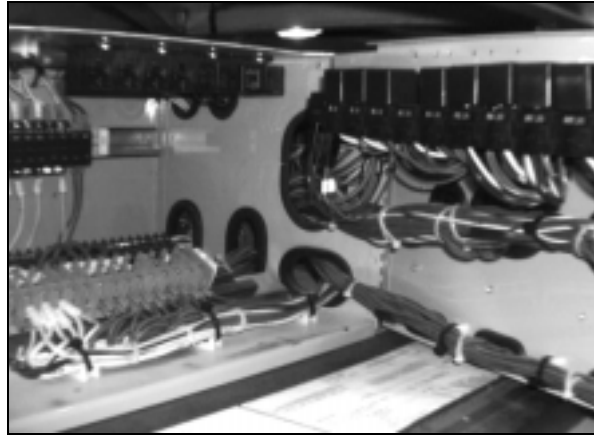

FIGURE 2: IN JUNCTION BOX
2. Locate front junction box and open door (Fig. 2).